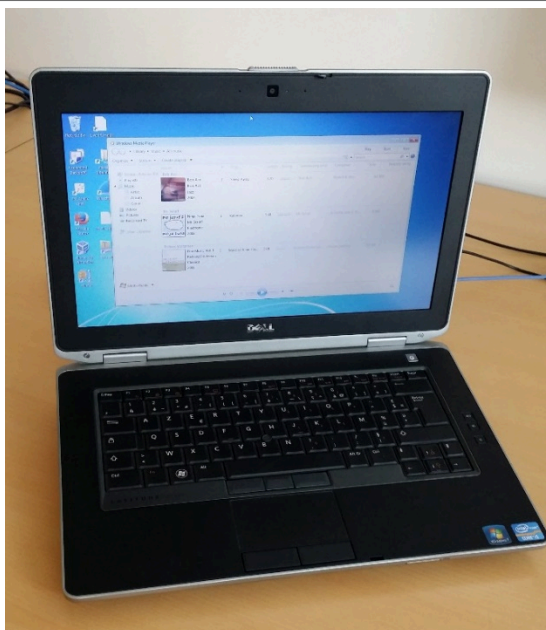

Figure 16. Laptop running Windows OS
5. Windows OS laptop (see Figure 16)